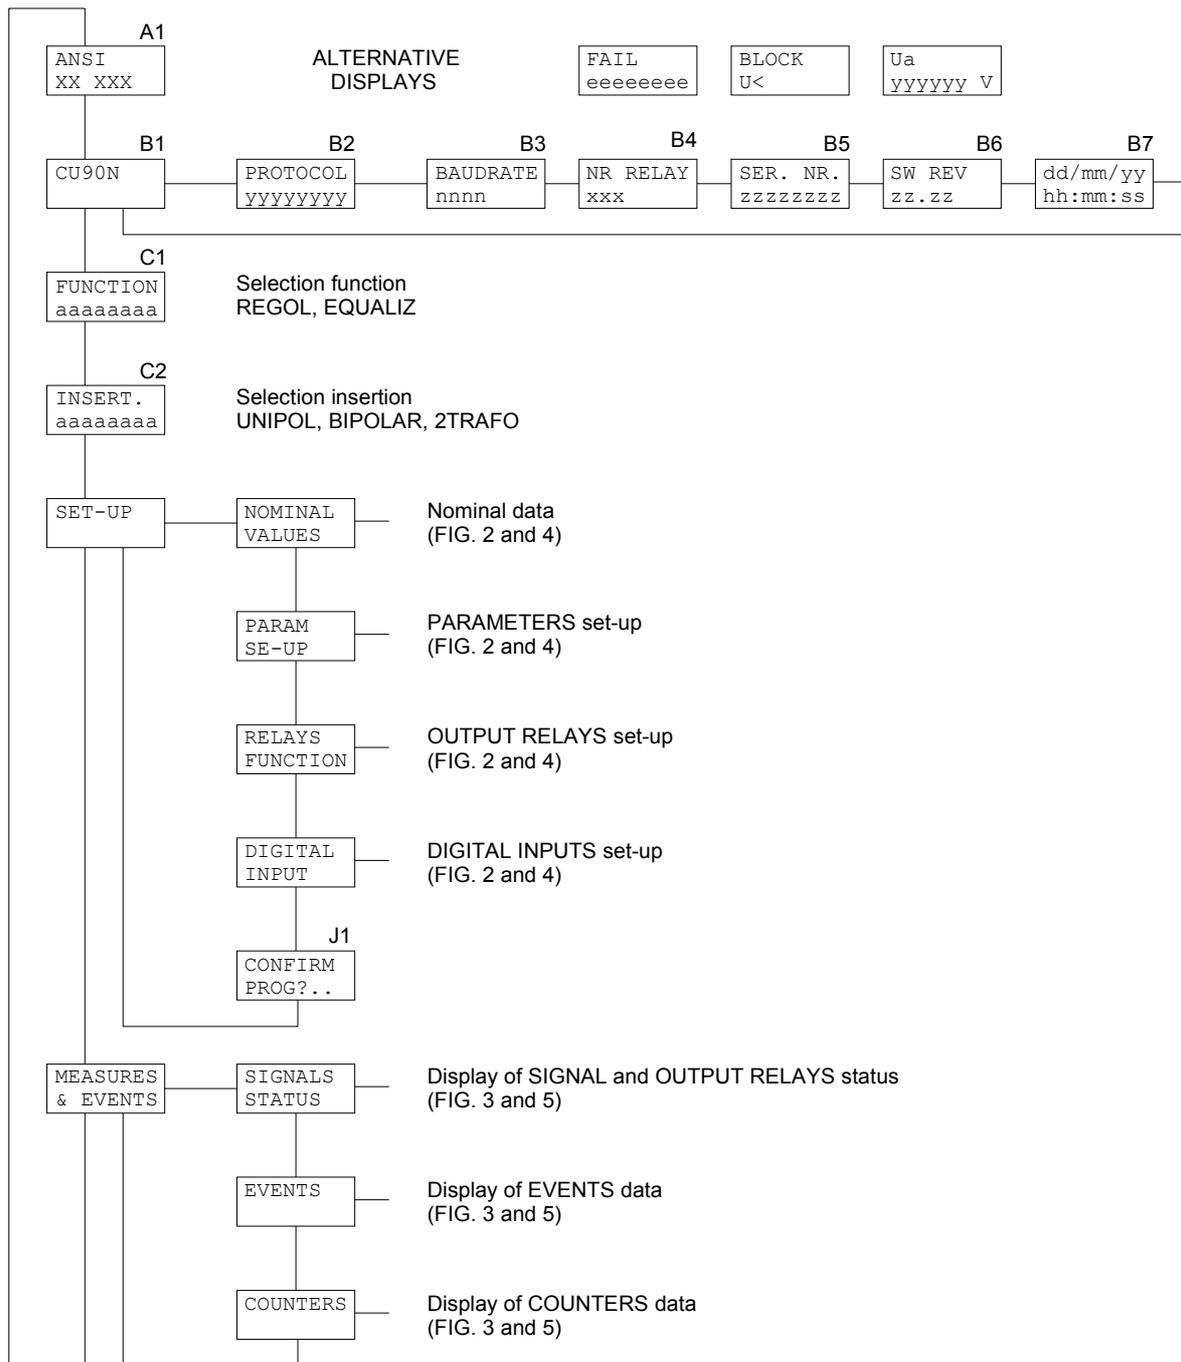

Figure 1
The programmable parameters are showed in Figures 1, 2, 3, 4 and 5 at the following references:
- 5) **CONFIRM** the new unit set-up at the visualization CONFIRM PROG? (Fig. 1, ref. J1) within 5 minutes depressing the push-buttons [**ENTER**] and  up to visualize **YES** and [**ENTER**] again to confirm.
- display on STANDARD MODE (Fig. 1, ref. A1 - par. 5.1)
The contents and the structure of the displayed messages are shown in figures 1, 2, 3, 4 and 5; the references A1, B1, B2 etc. identify specific displayed messages in the figures.
The figure 1 (main menu) is applicable for all operation modes, whilst the remaining figures are applicable as following:
5.3 Address and time (fig. 1)
5.4 Operating mode selection and insertion (fig. 1)